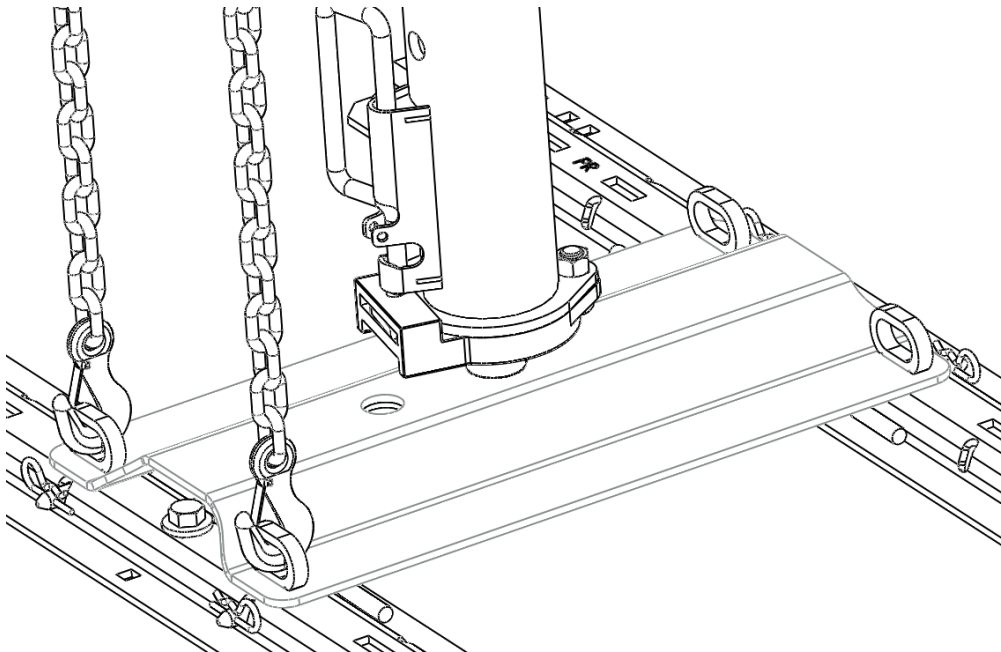

Figure 4
1. Review Safety Chains making sure that they are properly secured. (An example is shown on Figure 4.)